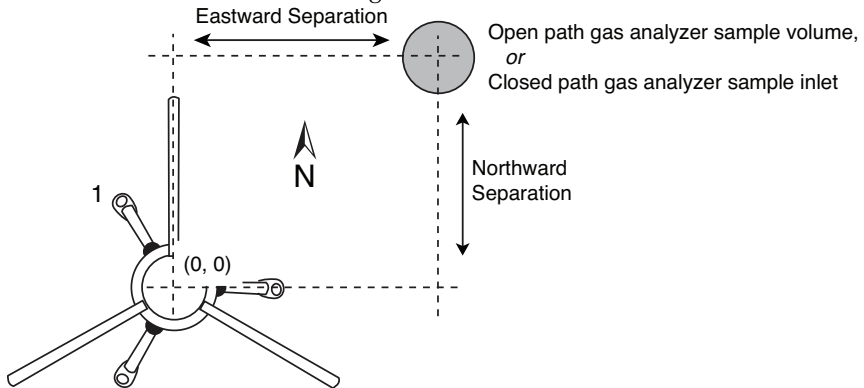

Figure 3-1. Eastward and northward separation of the gas analyzer relative to the sonic anemometer.
**Eastward Separation (cm):** East/west distance between the CO2/H2O Analyzer and the reference anemometer. Positive values if east and negative values if west of the anemometer (see Figure 3-1 below).
**Northward Separation (cm):** North/south distance between the LI-7700 Analyzer and the reference anemometer. Positive values if north and negative values if south of the anemometer (see Figure 3-1 on page 3-31).
**Eastward Separation (cm):** East/west distance between the LI-7700 Analyzer and the reference anemometer. Positive values if east and negative values if west of the anemometer (see Figure 3-1 on page 3-31).